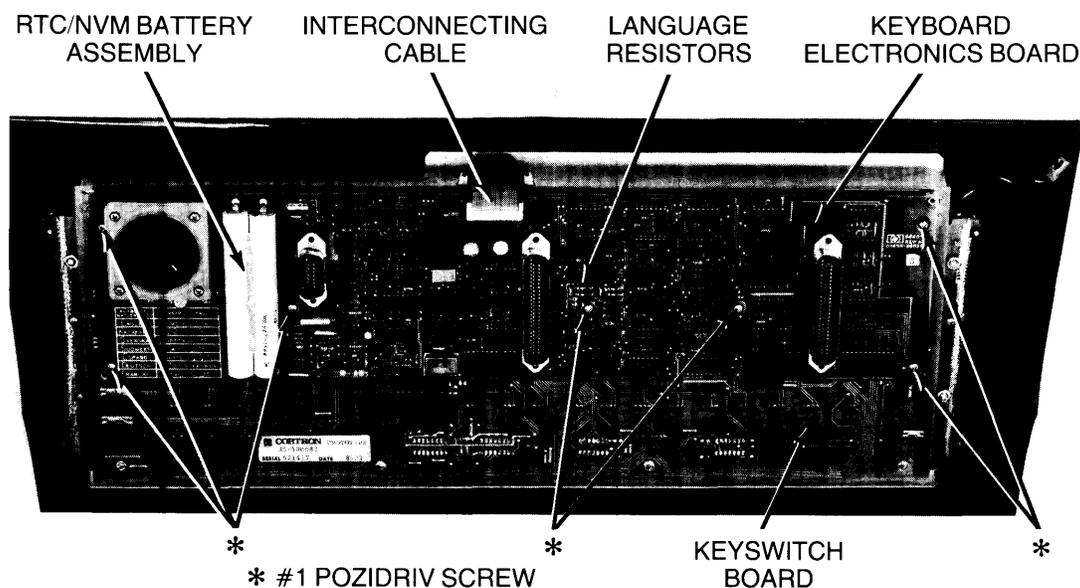

Figure 4-33. Disassembling Keyboard
3. Place keyboard upside down (keycaps down) on an antistatic surface (Figure 4-33).
4. Unplug keyboard electronics board cable from keyswitch board (Figure 4-33).
5. Remove seven #1 Pozidriv screws that interconnect keyswitch board and keyboard electronics board (Figure 4-33).
3. Place keyboard upside down on an antistatic surface (Figure 4-33).
4. Determine current configuration by noting the resistors in place on the keyboard electronics board (Figure 4-33). Determine desired configuration according to Table 4-1. A “1” indicates a resistor is installed at that location; a “0” indicates there should be no resistor there. Add and/or remove resistor(s) to match the desired configuration. Resistor part number is 0698-3441.
4. Cut battery connections and remove batteries (Figure 4-33).